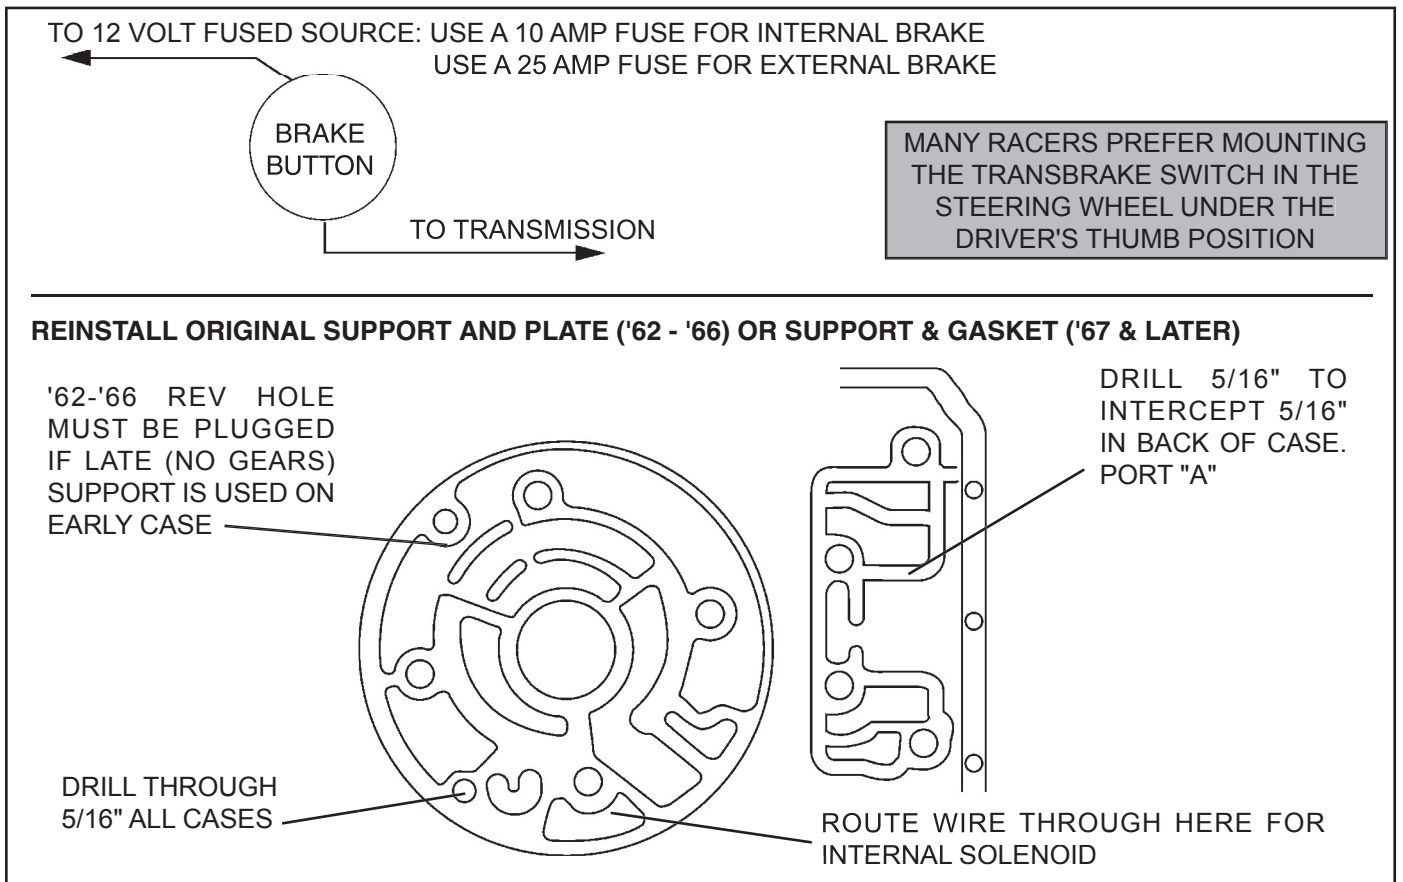

Figure 2. Powerglide Case, Rear View
3. Drill a 5/16" diameter hole completely through the transmission case, starting from the rear as shown in Figure 2. Although this hole exists on 1967 and later model Powerglides, the factory orifice dimensions are not acceptable for transbrake operation. Therefore, the case must be drilled through for all model Powerglides.
- K. Install the transbrake button and route wiring. Disconnect the vehicle battery before wiring to prevent electrical system damage. See wiring diagram (Figure 2). Install the ATI brake valve with the spring through case modulator hole into the valve body. Place the spring inside the pocket of the valve. Install the valve with spring end first.